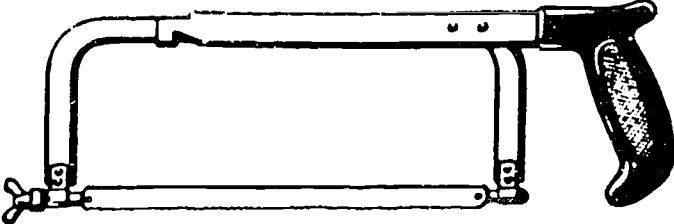
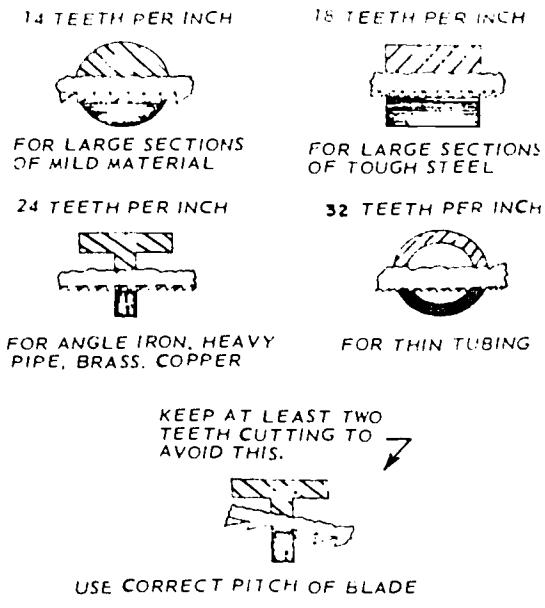

Figure 1-11. Hacksaw.
Figure 1-12. Correct sawtooth selection.
**Hand Hacksaws.** The hacksaw, illustrated in figure 1-11, consists of a frame, handle, and blade. Hacksaw blades come in lengths 6 to 16 inches, although the 10-inch size is most commonly used. These blades are identified by their length and number of teeth per inch (or pitch). Blades with 14, 18, 24, and 32 teeth per inch are available. Blades are made of high-grade tool steel which may be flexible or all hard. The flexible blades have only hardened teeth, whereas all-hard blades have hardened teeth and blades. Blade selection involves finding the right type for the job at hand, as illustrated in figure 1-12. An all-hard blade is best suited for sawing brass, tool steel, cast iron, and heavy cross sections of material. Flexible blades are recommended for sawing hollow shapes and material
having thin cross sections. The selection of a blade by its pitch is important, as illustrated in figure 1-12. A blade with 14 teeth per inch is recommended for cutting cold roll and structural steel. The 18-teeth-per-inch blade is recommended for solid stock aluminum and cast iron. The 24-teeth-per-inch is recommended for cutting thick wall tubing, pipe, channel iron, and angle iron, as well as brass and copper. The blade you will use most often is the 32 teeth per inch, which is recommended for thin wall tubing and light gage sheet metal.